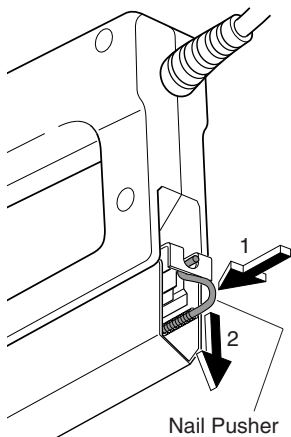
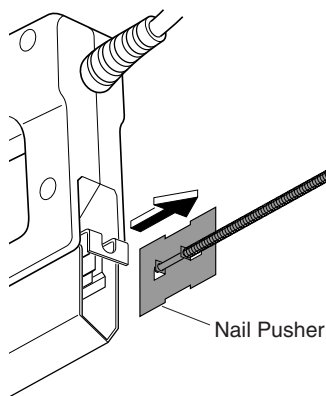

Figure 2
Figure 3
3. Remove nail pusher from nail chamber. Access nail pusher at rear of nail chamber. Push end of nail pusher in and down to release it (see Figure 2). Pull nail pusher from nail chamber (See Figure 3).